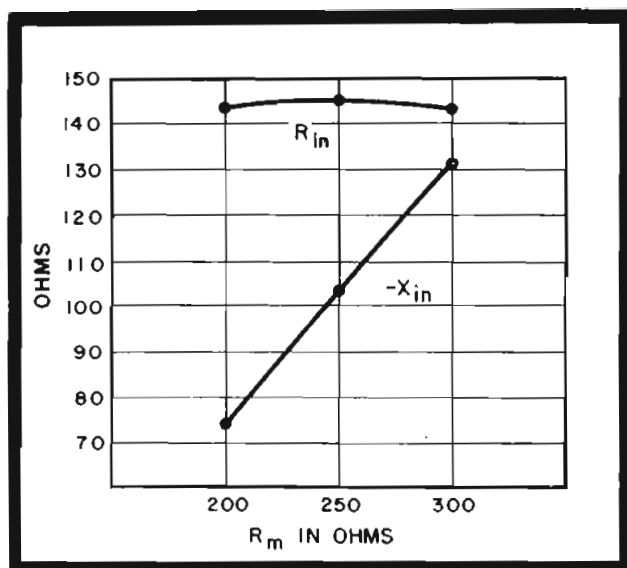

Figure 4
and we have a load resistance  $R_m$  of nominal value of 250 ohms as a terminating resistor. The length of transmission line to be used as given by (11) should be  $22^\circ$  or about  $1/8$  of a wavelength at the frequency being employed. If the terminating resistor is varied from 200 to 300 ohms the variation in  $R_{in}$  and  $X_{in}$  can be calculated immediately from (6) and (7). A curve of the variation in these values is shown in Figure 4.